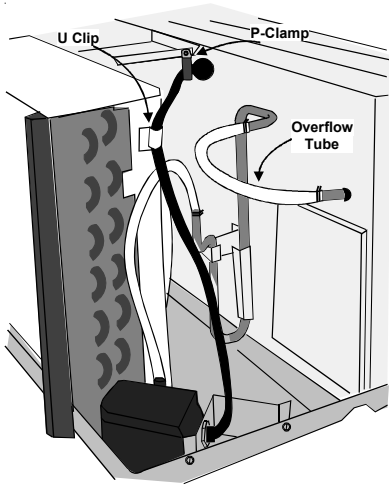

Figure 8
- Remove the protective adhesive backing from the plastic U clip and mount the U clip to the plastic condenser shroud in approximately the position shown (Figure 8).
- Attach the p-clamp to the brace with the screw provided. (Figure 8).
- Place one of the hose clamps over one end of the 16 inch vinyl hose. Place the same end over the barbed discharge tube of the pump assembly. Place a hose clamp on the other end of the 16 inch hose. Place this same end over the shorter leg of the overflow tube and secure the hose with the hose clamp (Figure 8).
15. Place a hose clamp over one end of the 11 inch long hose. Push this same end over the longer leg of the overflow tube and secure with the hose clamp. Place another hose clamp over the other end of the 11 inch hose. Push this same end over the condensate tube protruding out from the back of the partition panel and secure with the hose clamp (Figure 8).
16. Route the condensate pump cord through the U clip on the condenser shroud, through the p-clamp attached to the brace, and then through the hole in the panel where the compressor wires are routed through the panel. **NOTE:** The permagum may have to be removed to feed the wires through the panel, make sure wires have no slack and replace the permagum back into place to prevent air leaks (Figures 8 and 9).